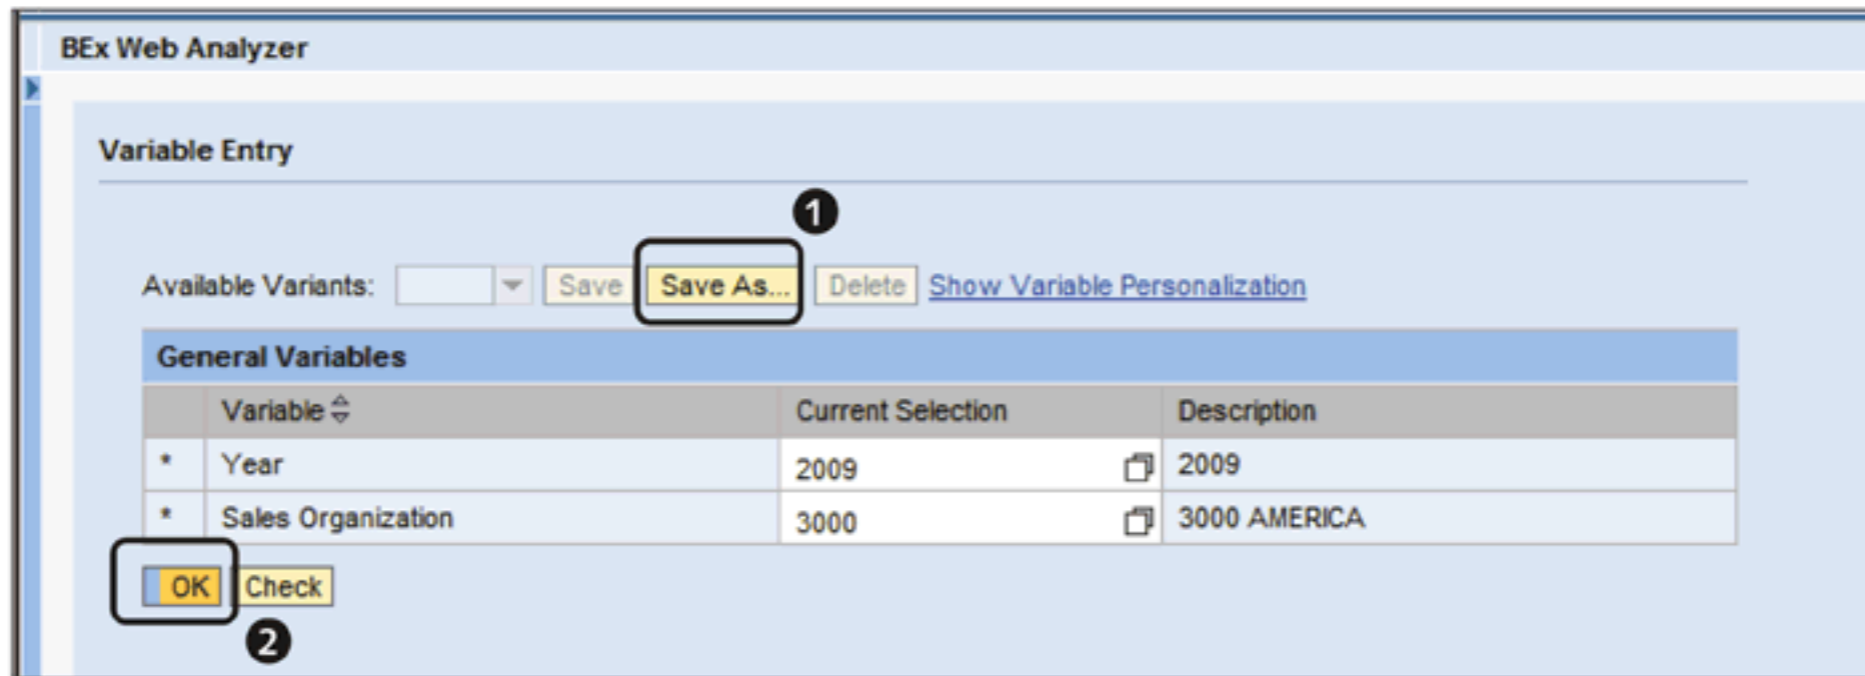

Figure 10.42 Enter Variable Values
variables, the variable entry screen is displayed where you can maintain the values of different variables (Figure 10.42). You can save this selection as a variant for future use by using the SAVE AS button (1 of Figure 10.42). Click on OK (2) to run the analysis with the selected variable values.